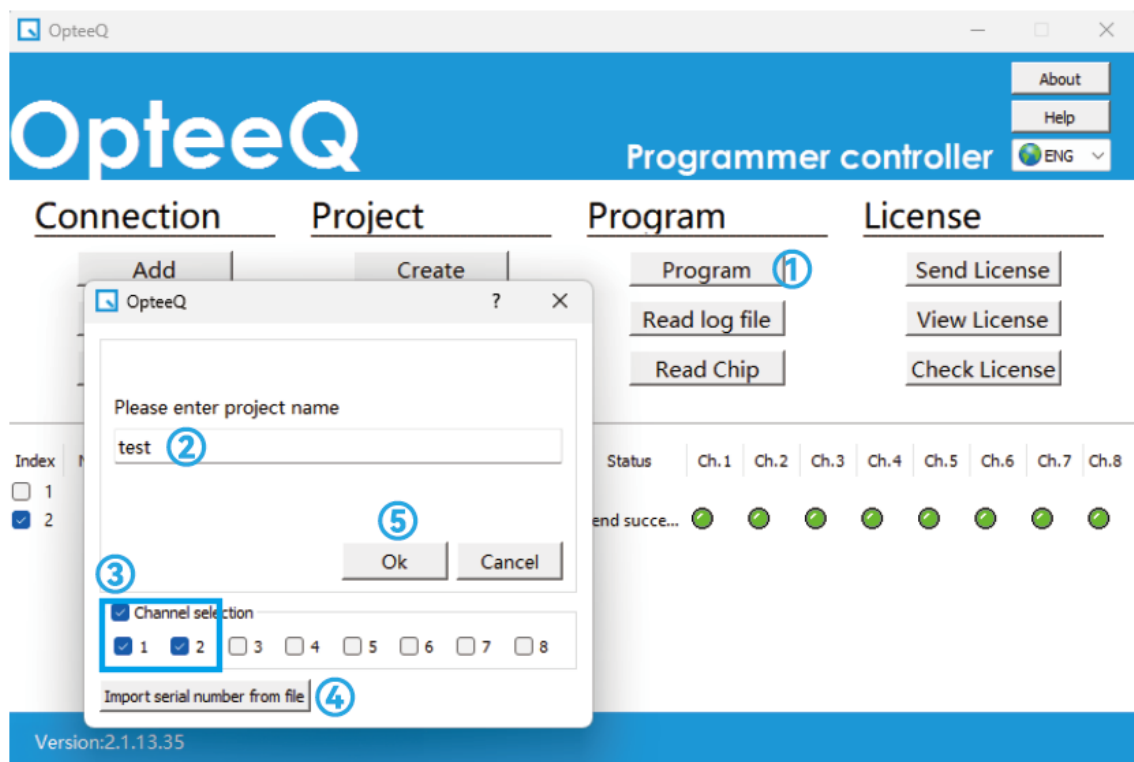

Figure 4.19 Program
- 1) Click "Program" (as shown in Figure 4.19-①).
- 2) Pop up a dialog box "Project to be Programmed" to input the project name to be programmed (as shown in Figure 4.19-②).
- 3) Check "Select Channel" in the dialog box. Notes: S8 Programmer allows any combination of Channels 1~8. Application example: Select Channel 1 and Channel 2 for programming (as shown in Figure 4.19-③).
- 4) Click "Import Serial Number from File" to set dynamic data for the chip (for specific operations, please refer to Chapter 5 "Programming Serial Number" herein). If it is not intended to set dynamic data for the chip, this option may be omitted (as shown in Figure 4.19-④).
- 5) Click "OK" to start programming (as shown in Figure 4.19-⑤).